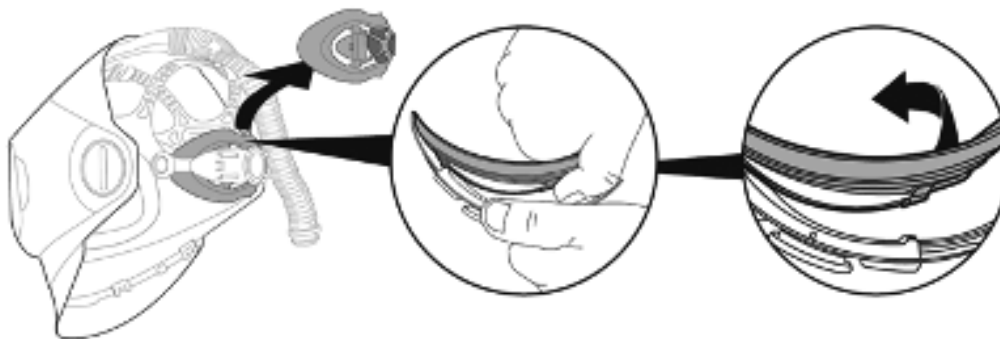
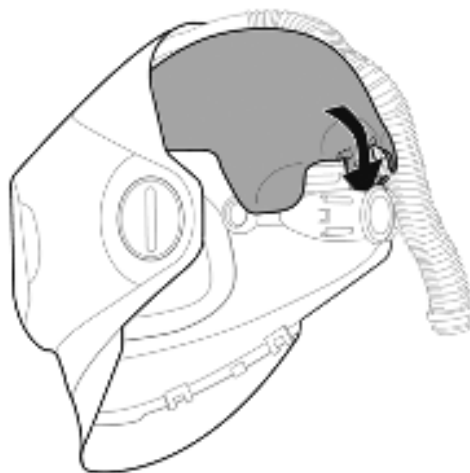

Fig. 20a
Fig. 20b
a. Remove the head cup from the suspension (Fig. 20a). Then, slide the legs of the scrape guard behind the attachment point (Fig. 20b).